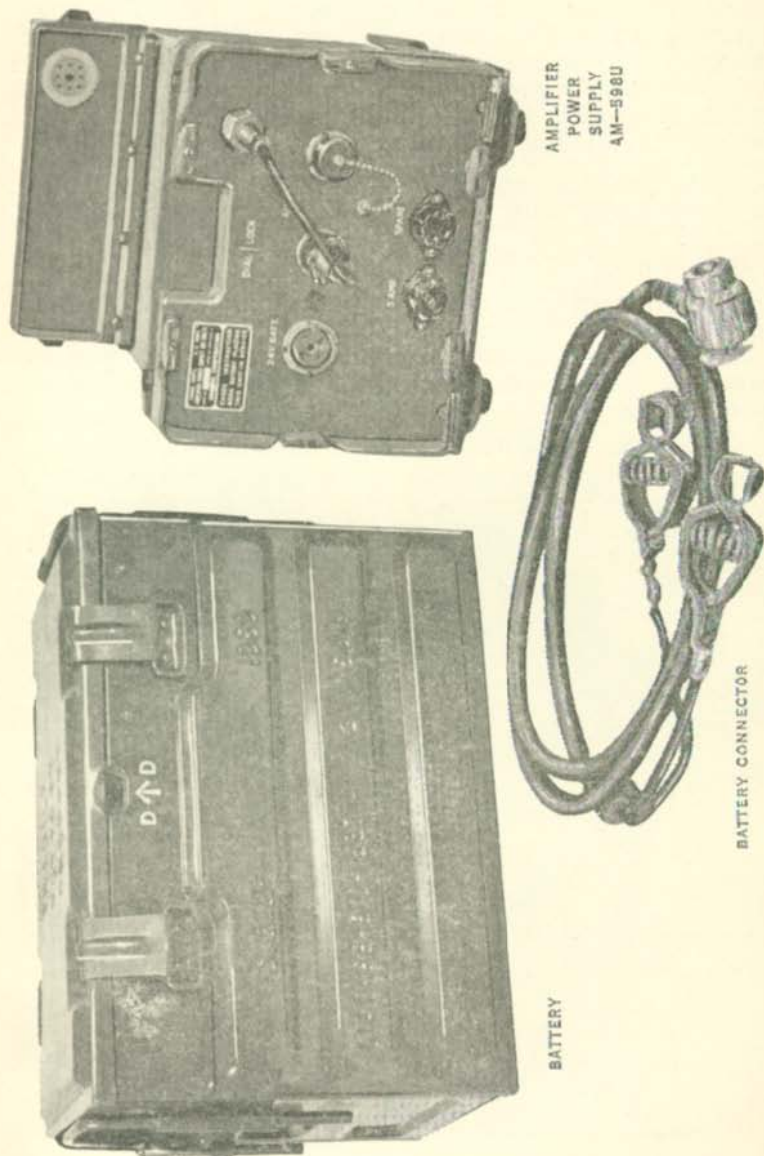

Figure 9 — Amplifier Power Supply AM/598/U
75. The amplifier power supply is mounted in a vehicle for normal use. Local conditions will decide just what vehicle mounting should be used. To set up the amplifier power supply to work with the radio set AN/PRC 10, proceed as follows: (figure 9).